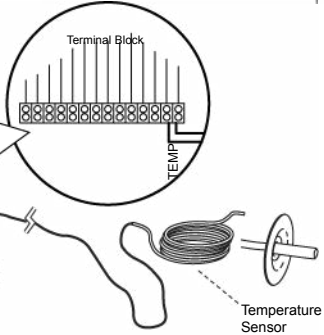

Figure 2
3. Make a hole in the cable lead-in on the side of the generator to pull the cable through. Connect the cable in the terminal block marked as "TEMP". See figure 2.